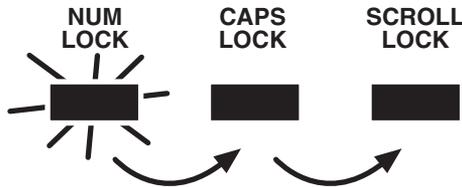

Figure 5-1. The configuration-mode LED pattern.
- Configuration-mode indication—rolling sequence.** As shown in Figure 5-1, the Extender flashes the Num Lock, Caps Lock, and Scroll Lock LEDs on the attached keyboard in sequence to show that it's in configuration mode (see **Section 4.2.2**). Num Lock will light first while Caps Lock and Scroll Lock are dark. Then Caps Lock only will be lit, then Scroll Lock only, and then Num Lock again. The cycle repeats itself continuously until you exit configuration mode, after which the LEDs will be placed back in the states they were in before you went into configuration mode.